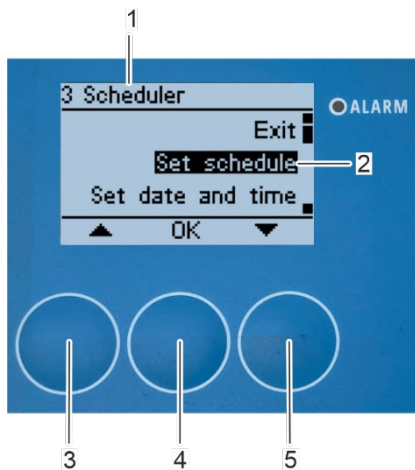

Fig. 154: Open „Set schedule“ submenu
⇒ The "3 Scheduler" submenu (Fig. 154/1) appears on the display.
3. Select the "Set schedule" submenu (Fig. 154/2) with the arrow keys *[up]* (Fig. 154/3) and *[down]* (Fig. 154/5).
4. Confirm the selection with *[OK]* (Fig. 154/4).